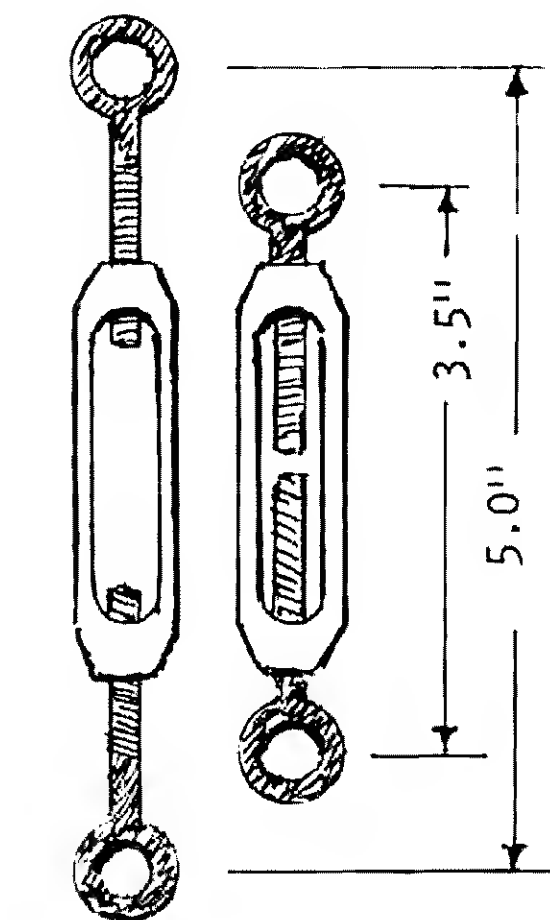

FIG 8 - TURNBUCKLE
- b. Turnbuckle (Fine Adjustment) Fig.8